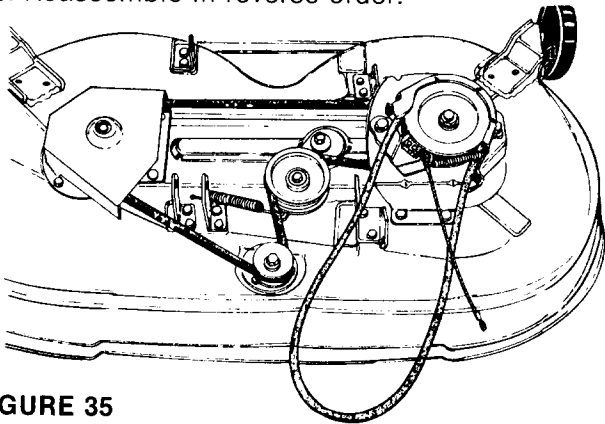

FIGURE 35
8. Remove the belt guard by unhooking the spring and removing two self-tapping screws. See figure 35.